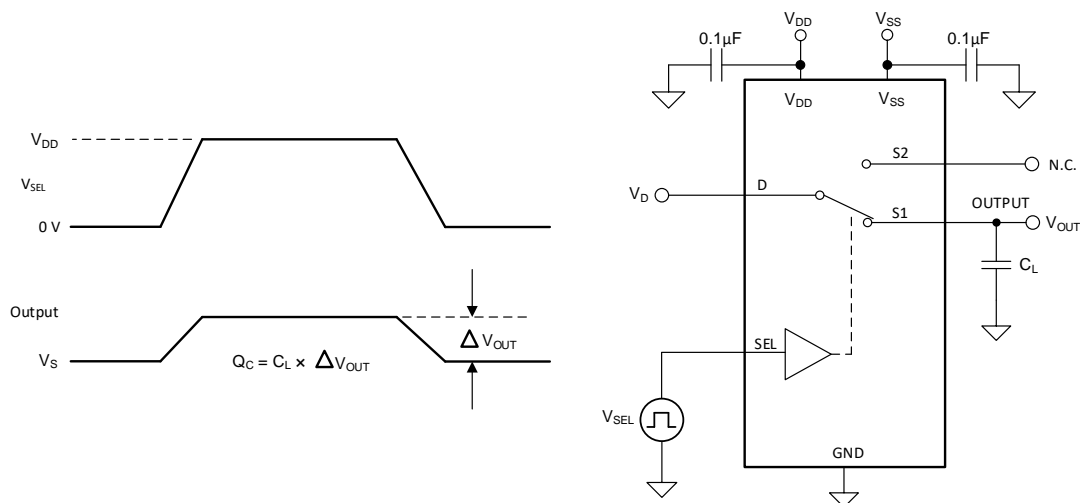

图 12. Charge-Injection Measurement Setup
The TMUX1247 has a transmission-gate topology. Any mismatch in capacitance between the NMOS and PMOS transistors results in a charge injected into the drain or source during the falling or rising edge of the gate signal. The amount of charge injected into the source or drain of the device is known as charge injection, and is denoted by the symbol  $Q_C$ . 图 12 shows the setup used to measure charge injection from Drain (D) to Source (Sx).